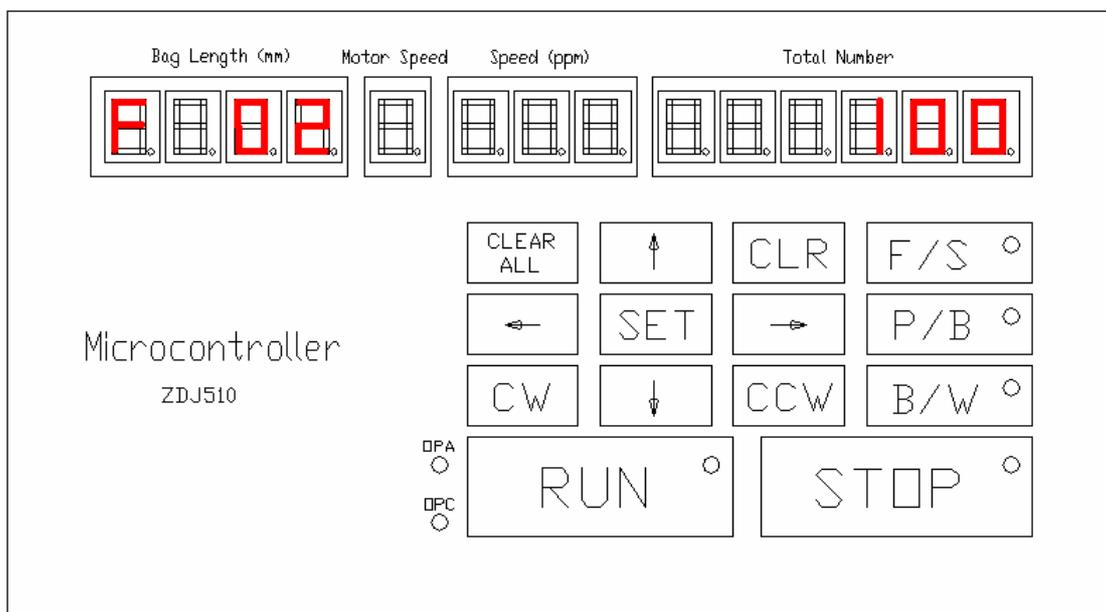

Figure 2. F 02 Bag Group Set
- **Bag group:** the number of bags for one group. The buzzer will sound when the number reaches. Only when stopping can bag group be modified. Press button 'SET' until 'F02' appears. Refer to Figure 2 in Appendix 1. '←' and '→' are used to circularly choose digit for modification. '↑' and '↓' are used to change the value. Max 9999, Min 6.